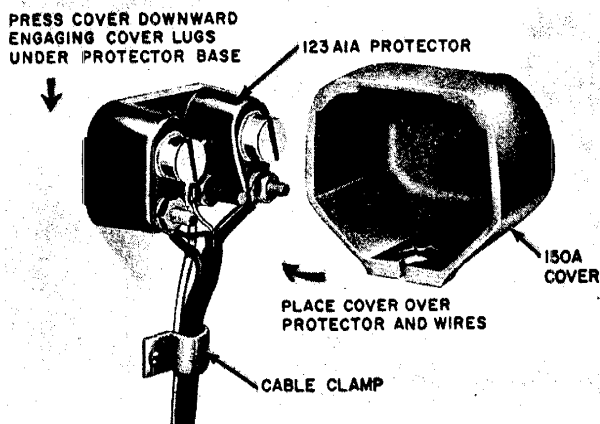

Fig. 10—150A Cover
- 3.05** The 150A Cover consists of gray semiflexible insulating material (Fig. 10).